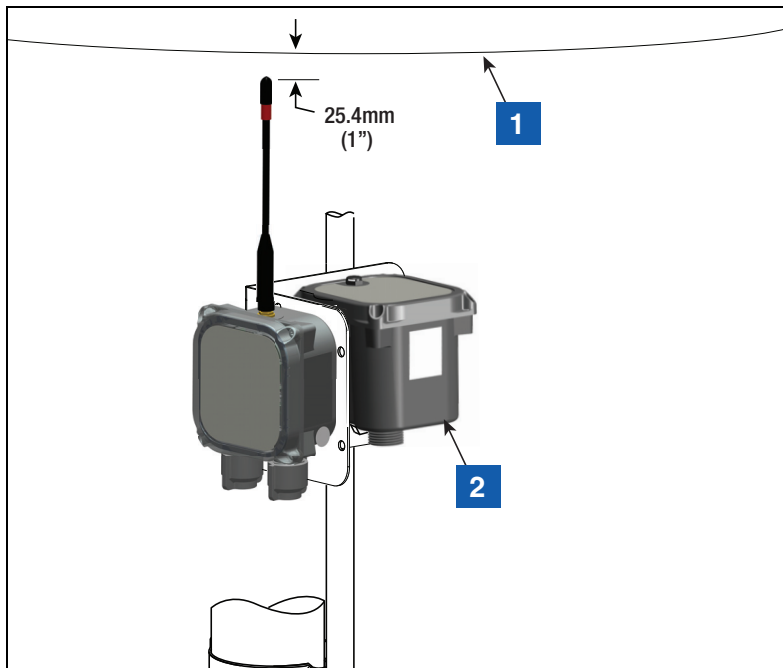

Figure 17. Installing Support Bracket at Recommended Transmitter Antenna Position
5. Loosen the clamps installed in Step 4 on the back of the support bracket and slide the two clamps down over the conduit. Position the support bracket so the tip of the antenna is about 25.4mm (1 inch) below the top of the sump, then tighten the two conduit clamps (see Figure 17). Insert the Battery Pack into its support bracket cradle as shown.
LEGEND FOR NUMBERED BOXES IN Figure 17